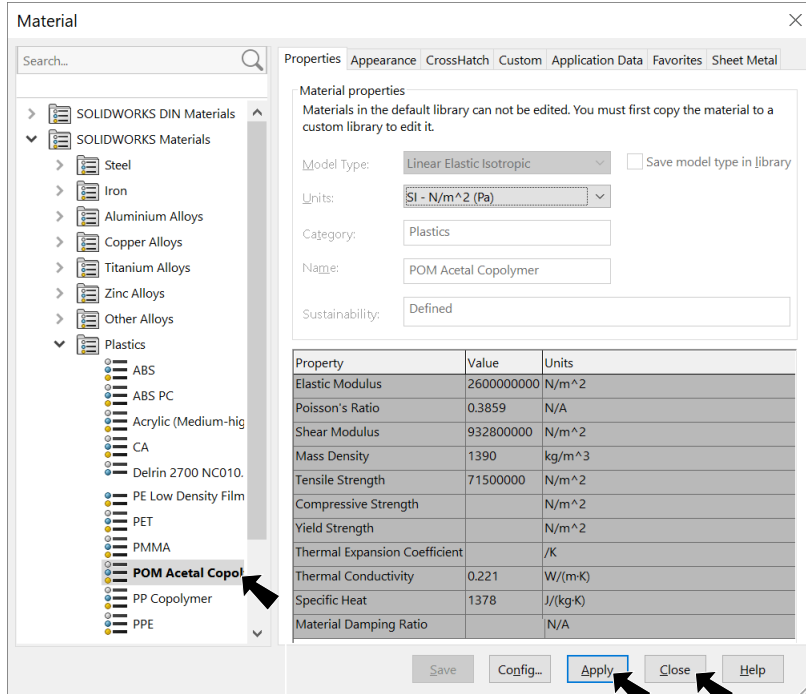

Fig. 23
Step 2. Expand **Plastics** in the material tree and select **POM Acetal Copolymer**, Fig. 23. Click **Apply** and **Close**.